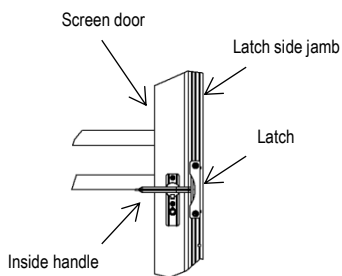

Fig. 3
- Attach latch to door jamb by predrilling two 1/8" holes and using two 1 1/4" wood screws to fasten latch to door jamb (Fig. 3).